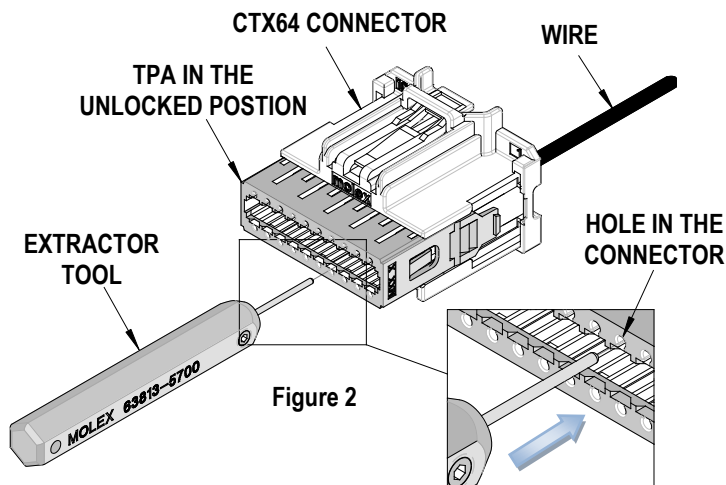

Figure 2
5. Position the blade of the extraction tool into the small hole (in line with the terminal to be removed) in the front face of the housing as shown in Figure 2.